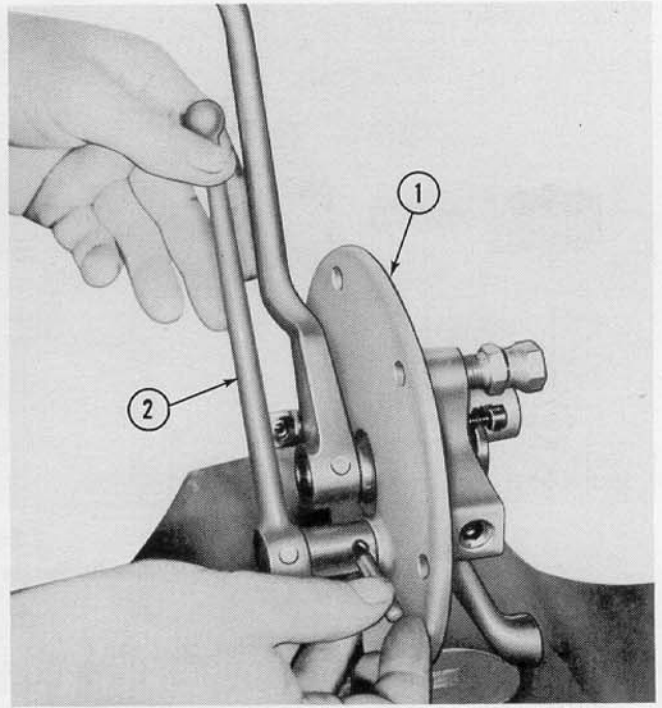

Figure 5
9. Remove the lever (2), Figure 5, from the original left side cover and secure it to the extension collar with the grooved pin provided. Attach this assembly to the valve and side cover assembly (1), Figure 5, as shown with a grooved pin.